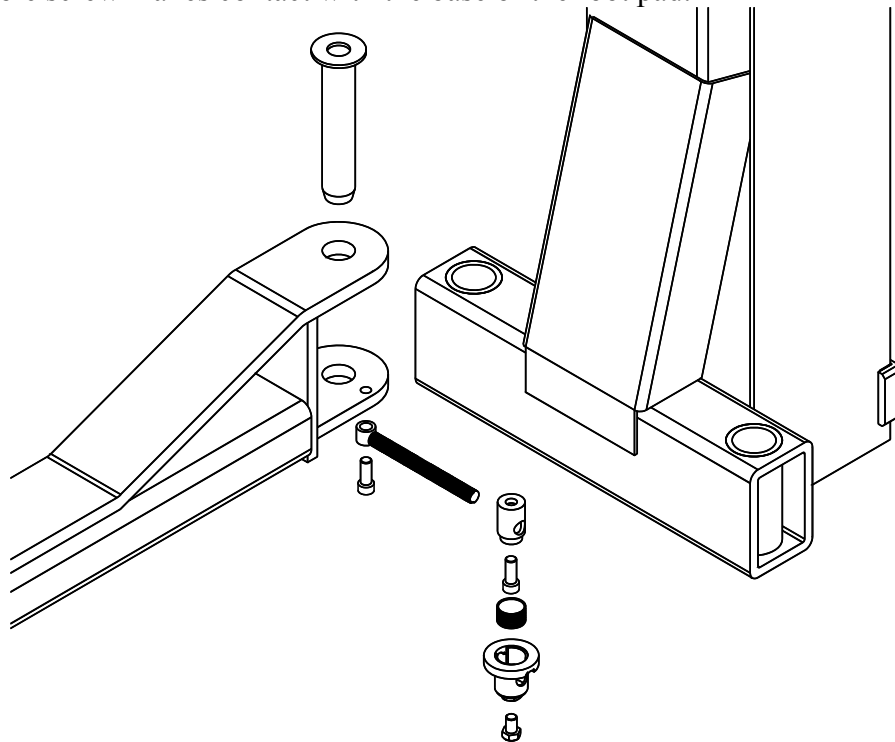

Figure 11
21. Lubricate the arm pin or carriage arm pin hole with “anti-seize” and install the arms (Fig. 11). Insure that the arm restraint gears engage and disengage properly. Arm restraints should disengage when lift is fully lowered. If any binding occurs, insure that the large gear mounted to the arm has been factory installed tight against the arm pin.